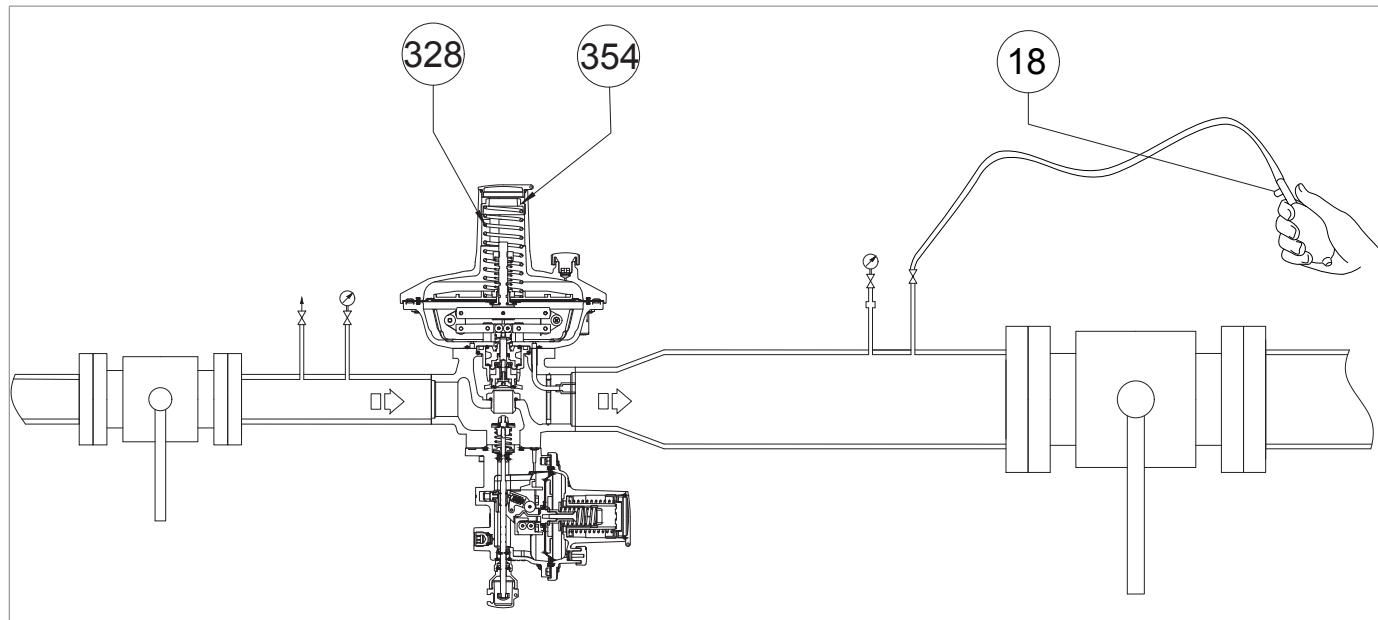
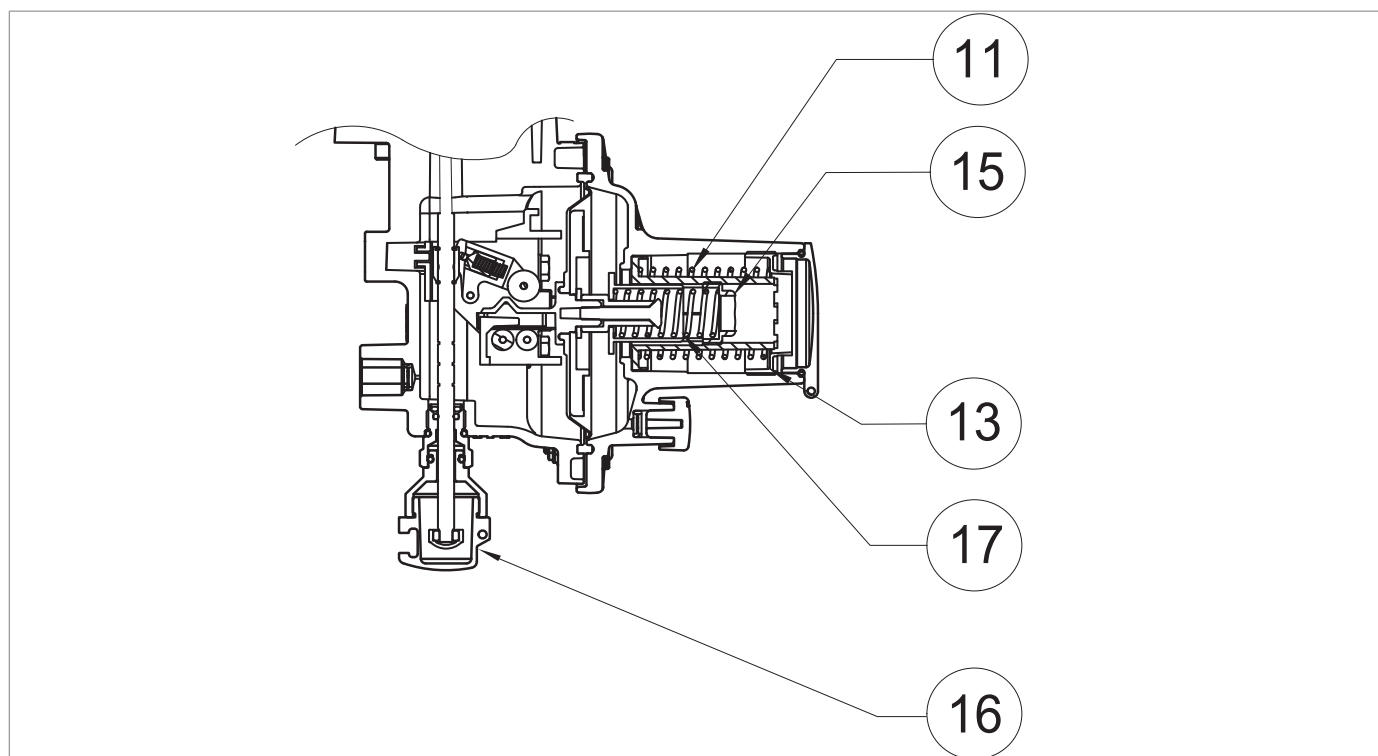
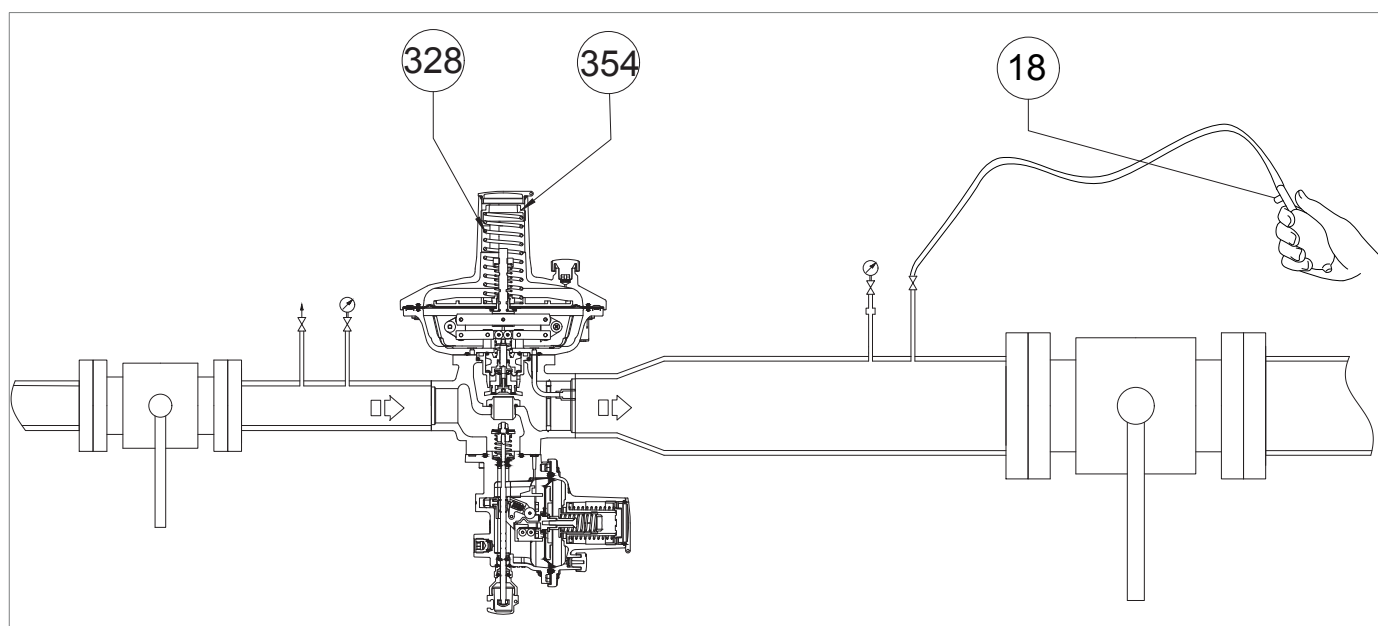

Fig. 8.22. Pressurising with external source for incorporated LA slam-shut valve
Fig. 8.20. Calibration of pressure switch for LA slam-shut valve
Fig. 8.21. Pressurising with external source for incorporated LA slam-shut valve
1	Increase the downstream pressure to the tripping value of the slam-shut valve, connecting an external pressure source to the bleed cock (Fig. 8.20, ref. 6) placed on the downstream pipe, making sure to open an additional bleed cock (Fig. 8.22, ref. 18).  NOTICE! Check the pressure referring to the downstream pressure gauge (Fig. 8.20, ref. 5). If the slam-shut valve: • trips before the expected pressure value: screw in (clockwise) the adjustment ring nut (13) so as to further compress the spring (11); • does not trip at the expected pressure value: unscrew (anti-clockwise) the adjustment ring nut (13) so as to relieve the spring (11).
2	Decrease the pressure of the downstream section by opening the additional bleed cock (Fig. 8.22, ref. 18) to bring it up to the calibration value of the main regulator.
3	Close the additional bleed cock (Fig. 8.22, ref. 18).
6	Disconnect the external pressure source from the bleed cock (Fig. 8.20, ref. 6).
1	Partially open the bleed cock (Fig. 8.20, ref. 6) to the atmosphere and keep it open for the next steps.
2	Turn the adjustment ring nut (Fig. 8.20, ref. 3) of the regulator anti-clockwise to decrease the downstream pressure (Pd) to the minimum pressure required for tripping of the slam-shut valve.
3	If necessary, remove the closing cap (Fig. 8.22, ref. 354) together with the adjustment ring nut and remove the regulation spring (Fig. 8.22, ref. 328).  NOTICE! Check the tripping pressure value of the slam-shut valve indicated on the downstream pressure gauge (Fig. 8.20, ref. 5).
4	If the slam-shut valve: - trips before the expected pressure value, unscrew (anticlockwise) the adjustment ring nut (Fig. 8.21, ref. 15), to relieve the spring (Fig. 8.21, ref. 17); - does not trip at the expected pressure value, screw in (clockwise) the adjustment ring nut (Fig. 8.21, ref. 15) to further compress the spring (Fig. 8.21, ref. 17).
5	After having checked that the slam-shut valve trips at the preset value, proceed as follows: - Close the air vent valve (Fig. 8.20, ref. 6) - Position the regulation spring (fig. 8.21, ref. 328), the end cap (Fig. 8.22, ref. 354), the adjustment ring nut (Fig. 8.20, ref. 3) - Slowly open the upstream shut-off valve (V1) until the downstream pressure value (Pd) reaches the calibration value of the regulator, referring to the downstream pressure gauge (Fig. 8.20, ref. 5) - Close the upstream shut-off valve (V1) - Slowly and partially open the air vent valve (Fig. 8.20, ref. 6) to decrease the downstream pressure referring to the downstream pressure gauge (Fig. 8.20, ref. 5) until it reaches the minimum pressure tripping value - Check the minimum pressure spring for proper calibration by repeating steps 2-3-4 at least three times - Calibrate the main regulator referring to par. "8.5 - Regulator commissioning procedure"
7	Turn the adjustment ring nut clockwise (Fig. 8.20, ref. 3) to increase the downstream pressure to the regulator's setpoint.
9	Close the bleed cock (Fig. 8.20, ref. 6).